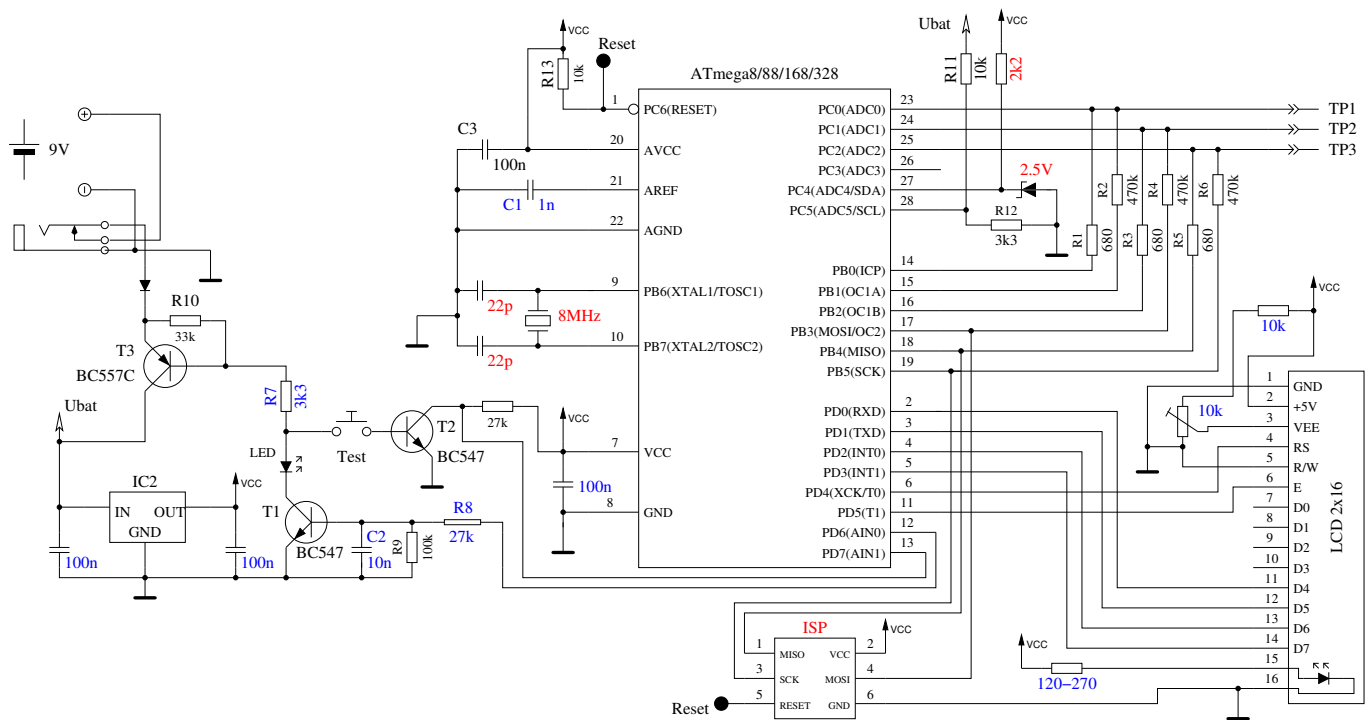

Figure 2.1: New circuit of TransistorTester
The circuit of the TransistorTester in figure 2.1 is based on the circuit of Markus F. released in Abb. 1 of AVR-Transistortester report [1]. Changed or moved parts are marked with blue color, optional parts are marked with red color. Some changes are made because the electronic power switch makes problems in some implementations. Therefore the resistor R7 is reduced to $3.3k\Omega$. The capacitor C2 is reduced to 10nF and R8 is moved so that the PD6 output does not try to switch a 100nF capacitor directly. Additional blocking capacitors are added and should be placed near the power connection of the Atmega and near the Voltage regulator. Because the PD7 input and PC6 (RESET) are the only pins, where pull up resistors were needed, one $27k\Omega$ resistor is added to the PD7 (pin 12) input. With this modification the software can disable all internal pull up resistors of the ATmega. The additional crystal with its capacitors are optional added. The accuracy of a crystal has the benefit of more stable time measurement for getting the capacitor values. New software version can use a scale switch of the ADC. The speed of switching is reduced by the external capacitor C1 at the AREF (21) pin of the ATmega. To avoid slowing down the measurement speed, the value of the capacitor should be reduced to 1nF. Removing of the capacitor C1 is also possible. For adapting the software to the actual circuit take a look to the Makefile options in the configuring chapter 3. Some different versions of R11 / R12 resistor combinations circulate in the internet. I have adapted my software to the original of Markus F. [1]. The additional precision voltage reference connected at pin PC4 (ADC4) is planned to use with future software versions and is currently not used. A optional ISP connector has been added to easier load new software versions to the tester.